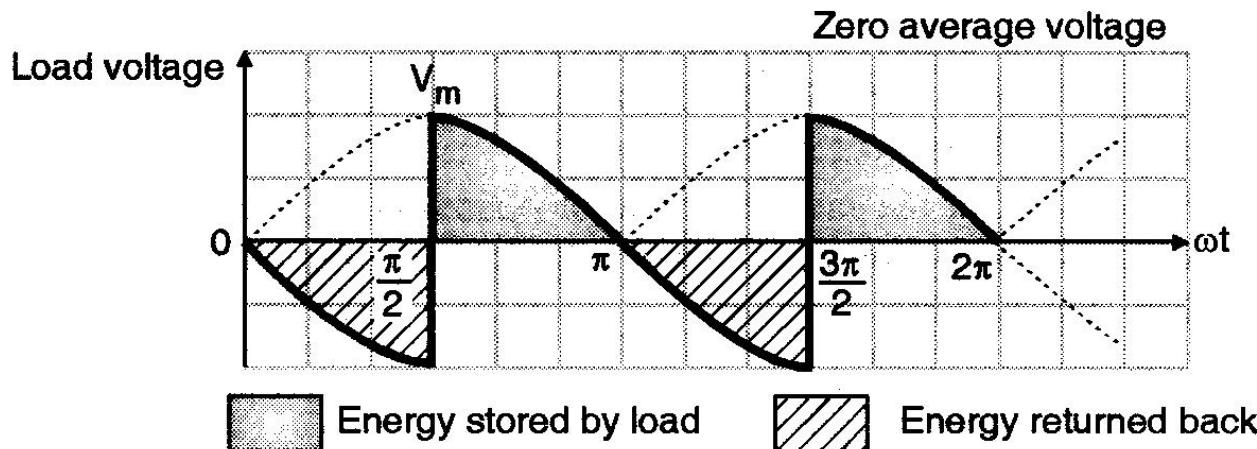

Fig. 2.12 (b) : Load voltage for $\alpha = 90^\circ$
- The load voltage waveform for $\alpha > 90^\circ$ is as shown in Fig. 2.12 (c).